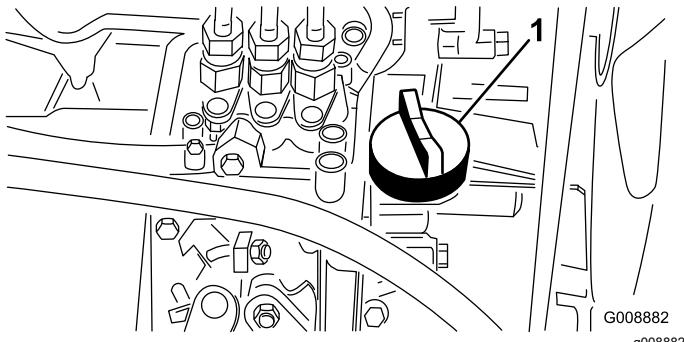

Figure 28
- If the oil level is low, remove the oil-fill cap (Figure 28) and gradually add small quantities of oil, checking the level frequently, until the level reaches the Full mark on the dipstick.